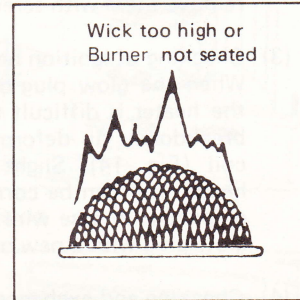

Fig. 13
- (1) If the flame flares too high above the wire net (Fig. 13), first check if Burner is seated properly by holding the Burner handle to swing the Burner for 2 – 3 times and see whether the flame becomes stable. If the flame continues to flare up, adjust by turning wick adjusting knob counter-clockwise slowly.
- It is dangerous to leave the wick too high after ignition. As the flame continues to rise, it will flare up to a too high flame condition. (Fig. 13)